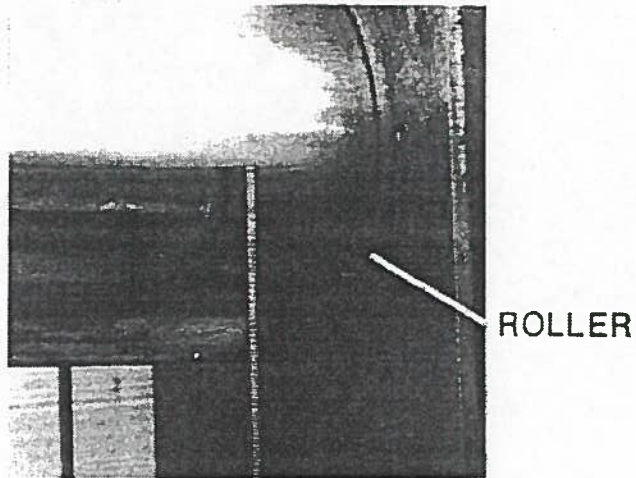
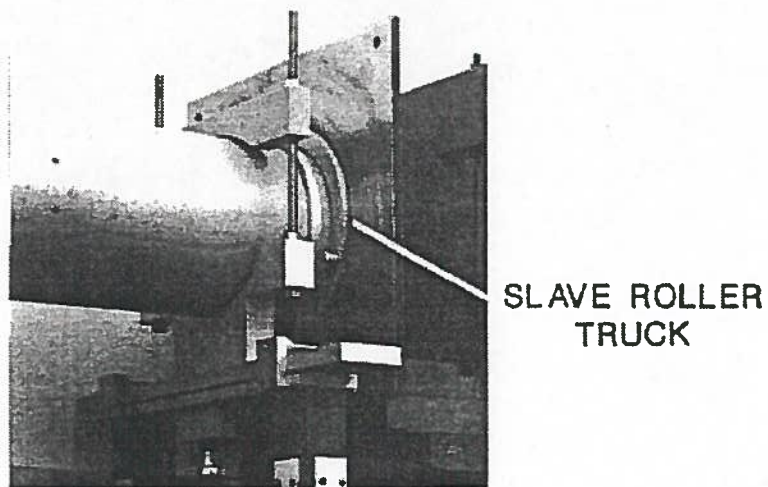

FIG. 17
FIG. 18
9. Check that the rollers on the Model L-HD seal tube have entered the wall tube (Fig. 17) or the slave roller truck for other model types has entered the wall tube (Fig. 18).